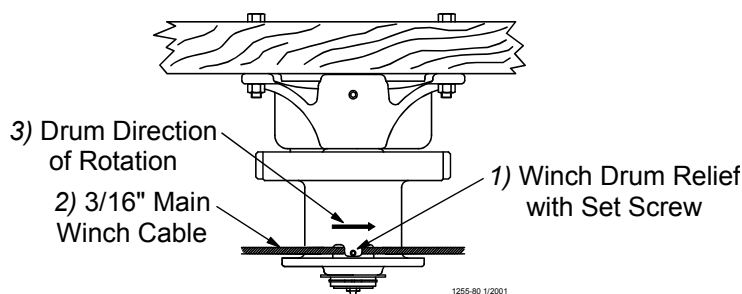

Figure 10. Attaching the Cable to the Power Winch
4. Route the cable through the Winch Drum Relief located near the bottom of the drum. Tighten the set screw to anchor the cable to the drum. See **Figure 10**.